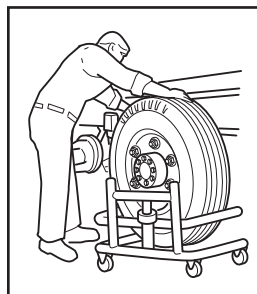

Figure 2
4. Remove the tire and wheel assembly using procedures specified by the wheel manufacturer (see figure 2).